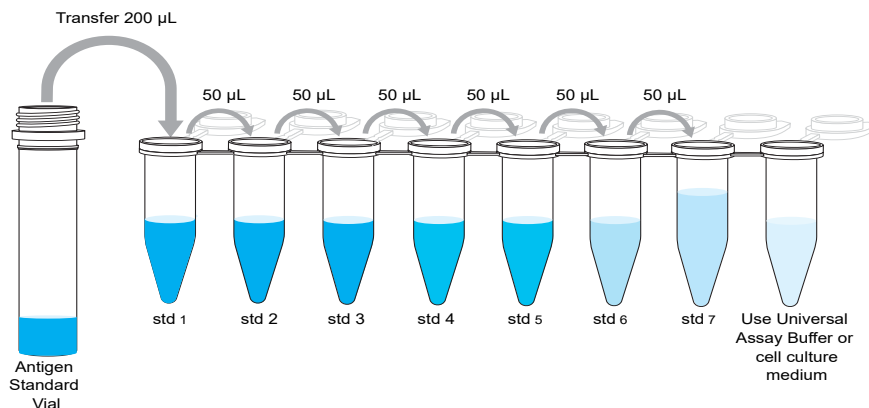

Figure 1 4-fold serial dilution
9. Add 150  $\mu$ L of diluent to the last tube of the 8-Tube Strip to serve as a background. See Figure 1